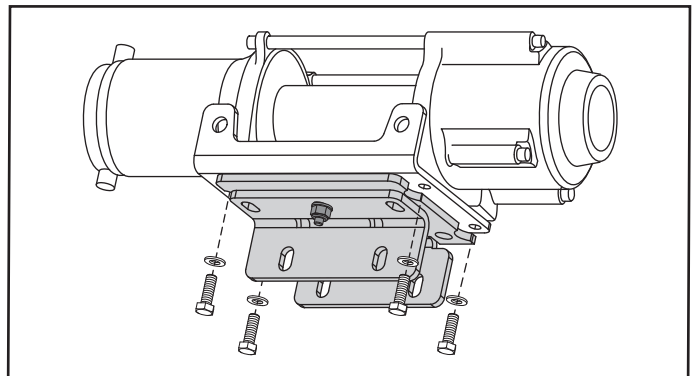

Figure 5.
- Use hardware included with your winch to attach the winch to the fairlead bracket. See figure 5.